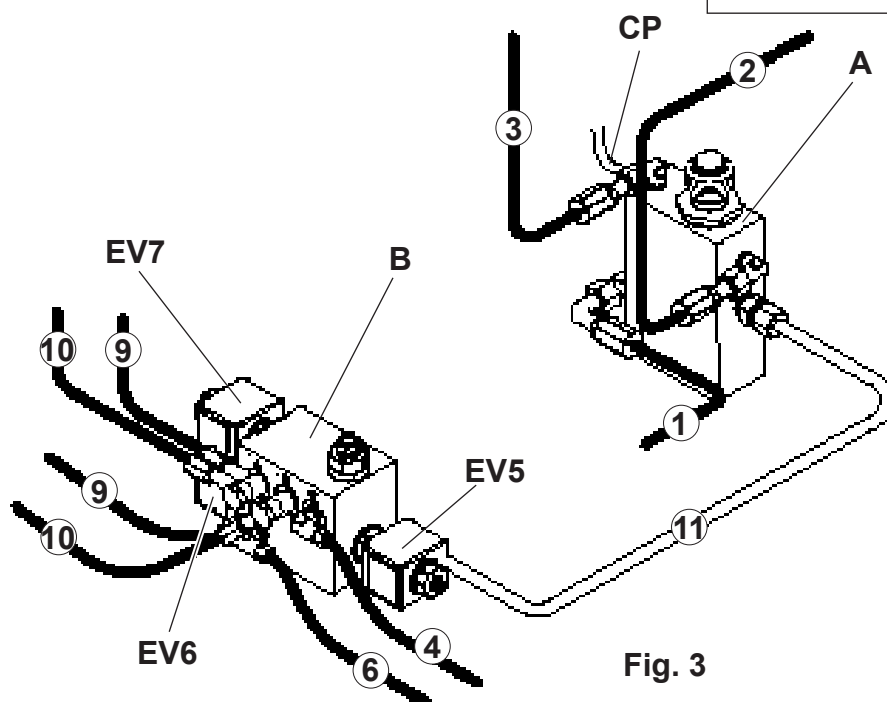

Fig. 3
- Connect the drain pipe (5) to the control unit (8).
- Connect pipes (4) and (6) to the control unit.
- Fill the tank (7) with ESSO NUTO H32 oil or equivalent.
- Connect the two block valves (A and B) using the pipe (11).
- Connect the electrical cables from the control unit to the EV5-EV6-EV7 solenoid valves and the pressure switch CP (Fig.3)